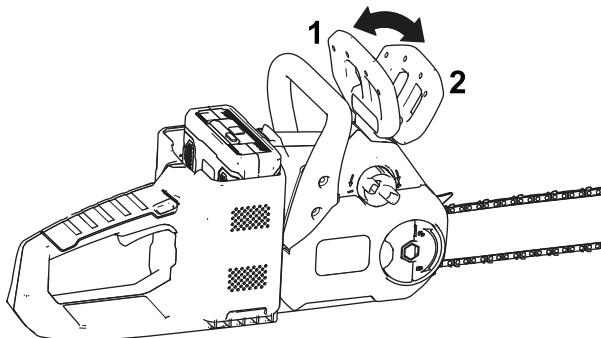

Figure 9
6. Ensure that the chain brake is in the OPERATING position (Figure 9).
Whenever you are not using the saw or are transporting the saw to or from the work area, move the chain brake to the STOP position (Figure 9) and remove the battery.